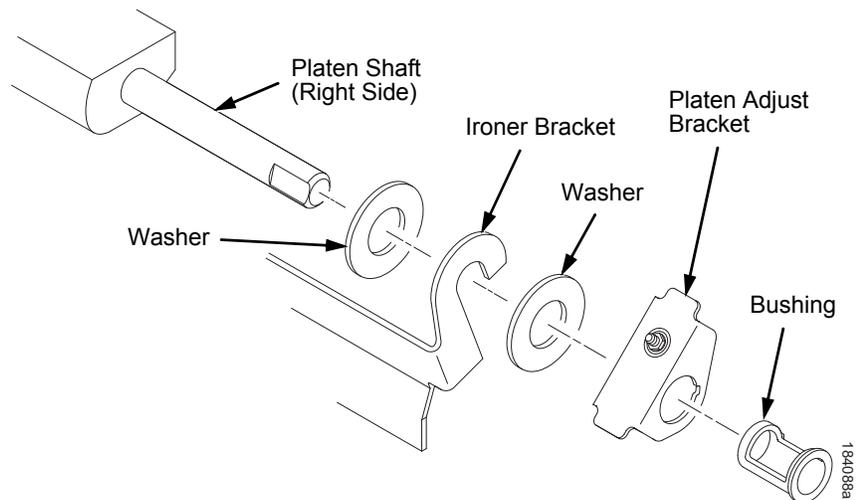

Figure 3. Installing the Platen Adjust Bracket
2. Install two washers on the longer (right) platen shaft. (See Figure 3 below.)
6. Install one platen adjust bracket and bushing onto the longer platen shaft, with the screw at the top of the bracket. (See Figure 3.)
11. Apply bearing lubricant to the nylon bearings in the two spring links, slide the spring links onto the platen shafts, and connect the springs to the spring hooks in the side plates. (See page 292, items 16, 17, and 18.)
13. Install the paper ironer bracket. (See Figure 3.)
On the right side of the platen, a washer goes on both sides of the paper ironer bracket hook and the hook goes to the left of the right platen adjustment bracket. (See Figure 3.)